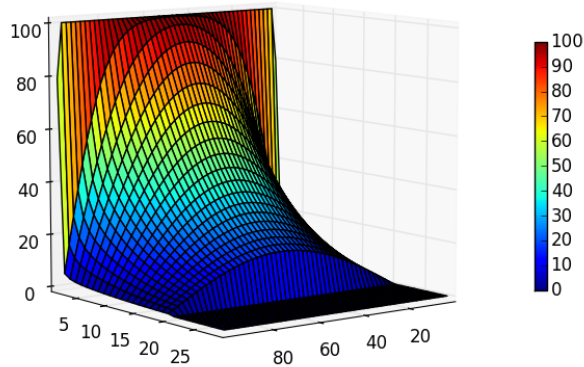
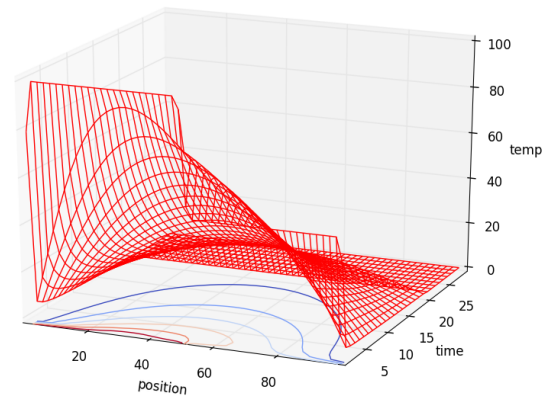

Figure 3: Surface plot with color gradient representing temperature. Like colors are temperature isotherms.
Figure 7: Heat flow through two metal bars in contact one initially at 100 K , the other at 50 K .
5. Surface plots are shown in figure 3.
6. The isotherms of constant temperature are plotted in figure 3 as colors, and in figure 7 as lines.
7. Stability test, check 17.76 the solution becomes unstable when  $\eta > \frac{1}{2}$ . The following figure(4) occurred when